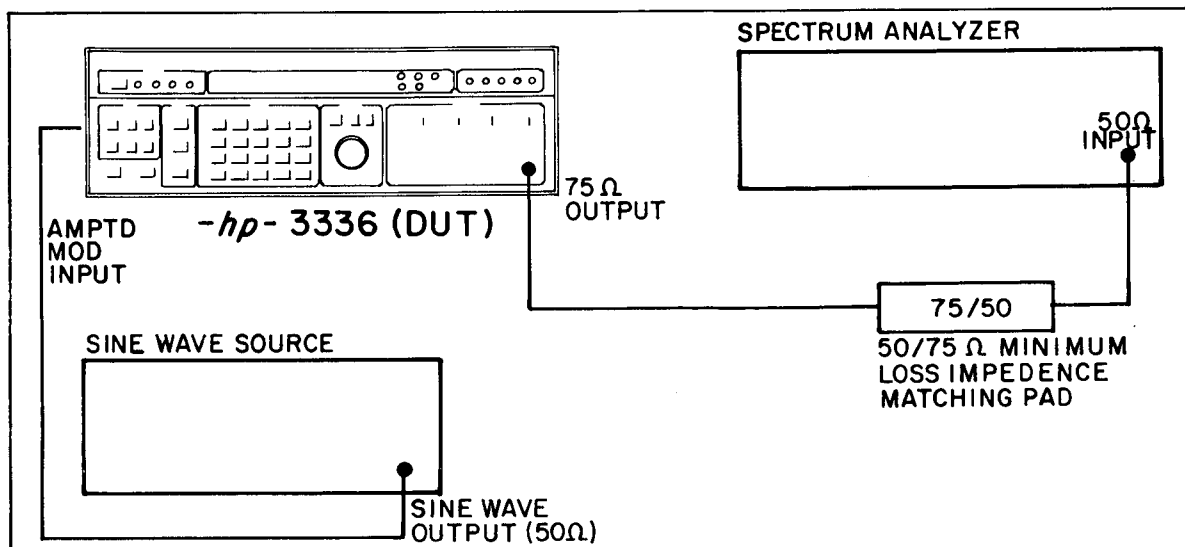

Figure 4-11. Amplitude Modulation Envelope Distortion Equipment Set Up.
- a. Connect the equipment as shown in Figure 4-11.